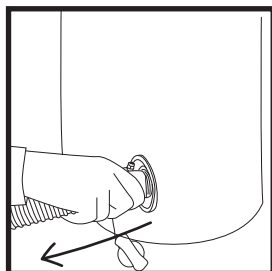

Fig. 3
5. Disconnect the pipe from the pump from the product, then turn the pump off (otherwise the air will escape from the product) (Fig. 3).